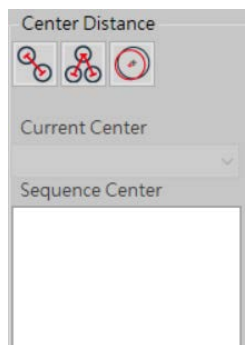

Fig 5-12 Center Distance
- (8) Center Distance: This function is only enabled after using Two Point Circle or Three Point Circle. There are three measure functions for Center Distance. See Fig 5-12.